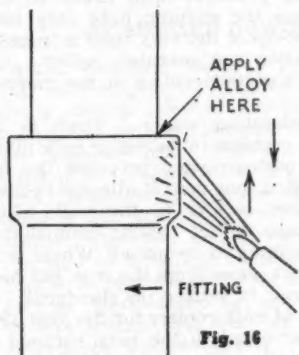

Fig. 16
2. After preliminary heating, select a 2" segment and bring pipe and fitting to brazing temperature by wiping flame from back of bead of fitting toward pipe, Fig. 16. When segment is up to temperature, as indicated by clear, very fluid state of flux, apply silver brazing alloy and sweat it in.